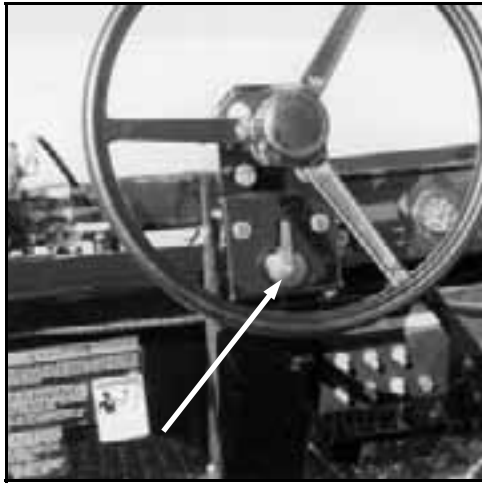
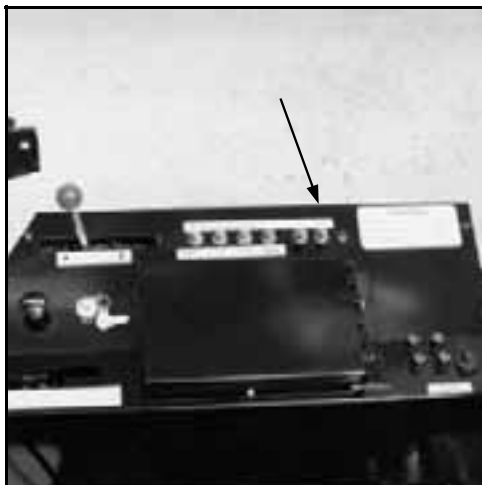
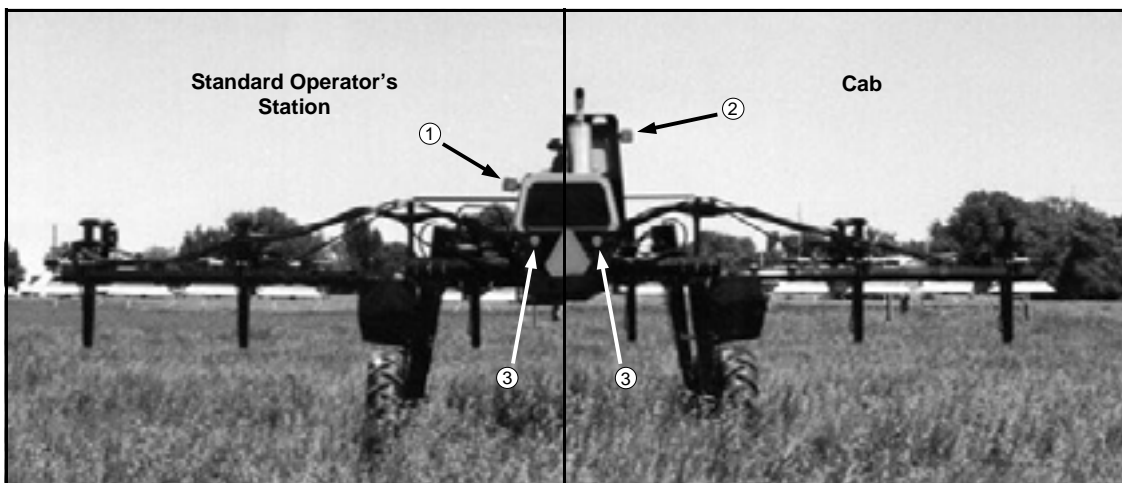

FIG 5.51
FIG 5.52
FIG 5.53
To activate the front (fig. 5.53, item 1 or 2) and rear turning signals (fig. 5.53, item 3) move the turn signal lever (fig. 5.51) right during a right-hand turn and left during a left-hand turn. Steering column-mounted turn signal indicators will correspondingly flash when either side of the turn signals is activated. The turn signal lever is not a self-centering switch; you must return it to the “OFF” position by hand after completing your turn.
To activate the flashing hazard/warning lights (fig. 5.53, item 1 or 2) flip the “FLASHER” switch to the “ON” position (fig. 5.52). Activate the hazard/warning lights anytime traveling on a public road, day or night, unless prohibited by law.
Activating any of the work lights (see page 64) will also turn on the “RED” running lights on the rear of the machine (fig. 5.53, item 3).